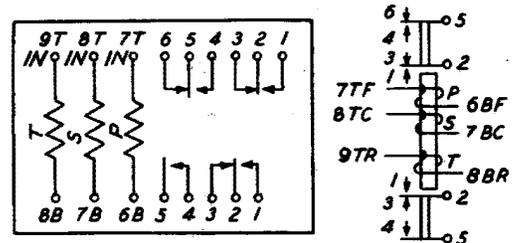

Fig. 6 — Winding and Spring Terminal Arrangement as Viewed From the Rear (terminal side) — U-, Y-, UA-, UB-, and 310-Type Relays
2.23 Where a numeral precedes the letter T or B, the terminals are numbered consecutively from right to left as viewed from the rear of the relay. The T and B represent winding terminals in the top or bottom row, respectively, as shown in Fig. 6.